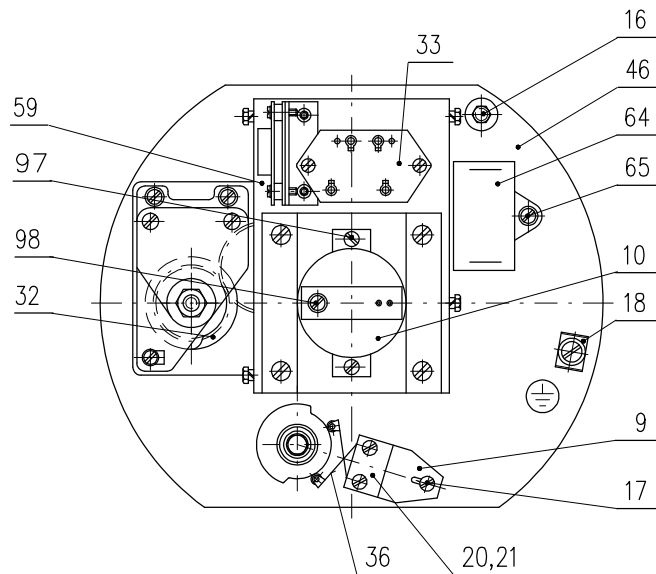

Fig.3
Switch element (9) (Fig.3) is formed by two micro-switches S1 and S2. It is put into operation after loosening of the nut (17).
The actuator is equipped with two parallel space heaters (16) (Fig. 3) with total power output 20W. Connection of the space heaters is conditional by operation environment.